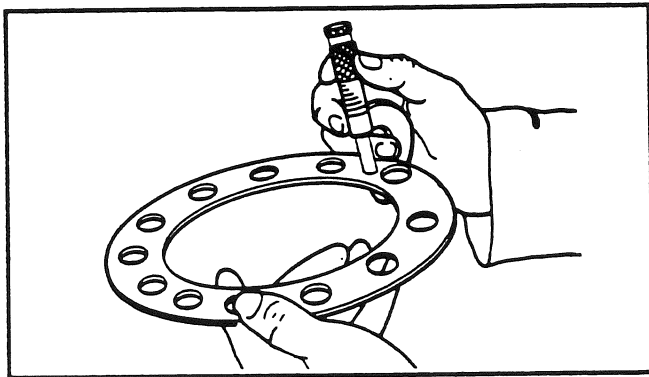

Fig. 46
1. Use a micrometer and measure the thickness of the shim pack that was removed from under the pinion bearing cage. Record the measurement for later use (see Fig. 46).